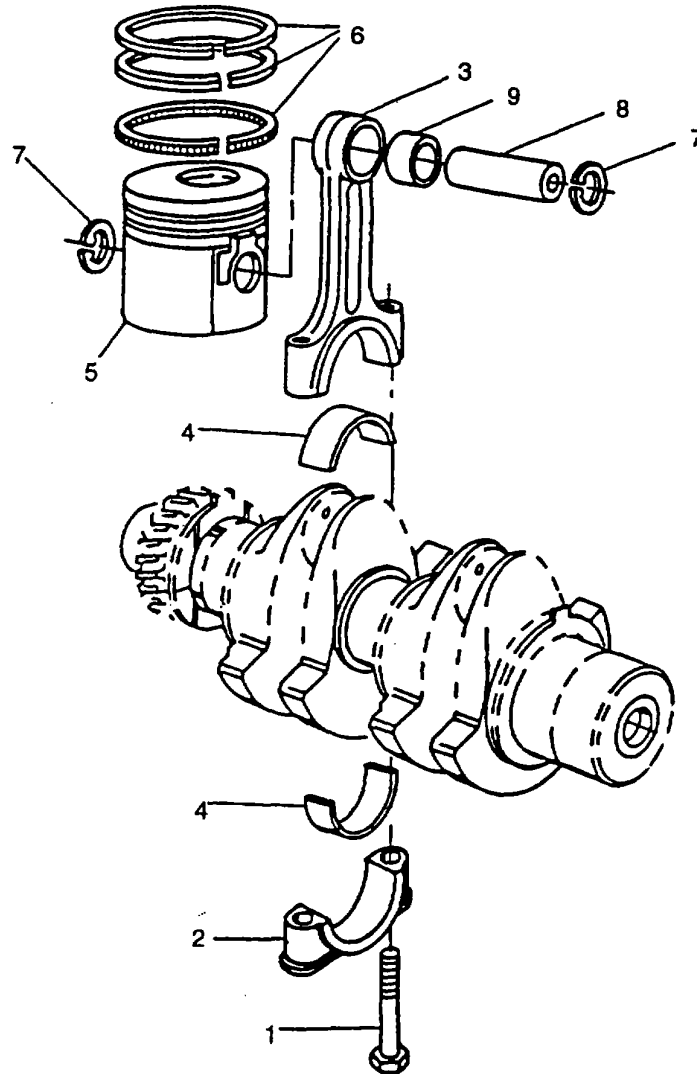

FIGURE 3-36. Piston and Connecting Rod Assemblies
- d. Rotate crankshaft as necessary to gain access to connecting rod bearing cap capscrews (1, FIGURE 3-36).
- b. Clean piston (5, FIGURE 3-36) by removing all traces of carbon from both upper and underside of crown and ring grooves.
- c. Check for correct gap clearance, refer to TABLE 3-6, with piston rings (6) in an unworn section of cylinder barrel.
- d. Clean connecting rod (3).
- e. Check bushing (9) for wear. Replace if worn.
Lay piston rings (6, FIGURE 3-36) out in order of removal to aid in installation.
If necessary, separate each bearing cap (2, FIGURE 3-36) and connecting rod (3) as it is installed. Do not mix bearing caps and connecting rods.
- b. If damaged, Install new connecting rod big end bearing shells (4, FIGURE 3-36) ensuring they are correctly located in both connecting rod and cap.
- c. Stagger piston ring (6) gaps so each ring gap is set at 90 degrees to adjacent rings and 45 degrees from piston pin (8) axis.